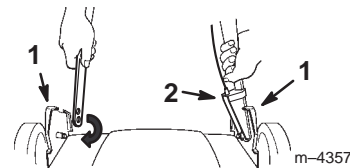

Figure 2
- Insert the left end of the lower handle and the cable guide onto the pin on the left mounting bracket (Fig. 2).
- Install the right end of the lower handle onto the pin on the right handle mounting bracket (Fig. 2).